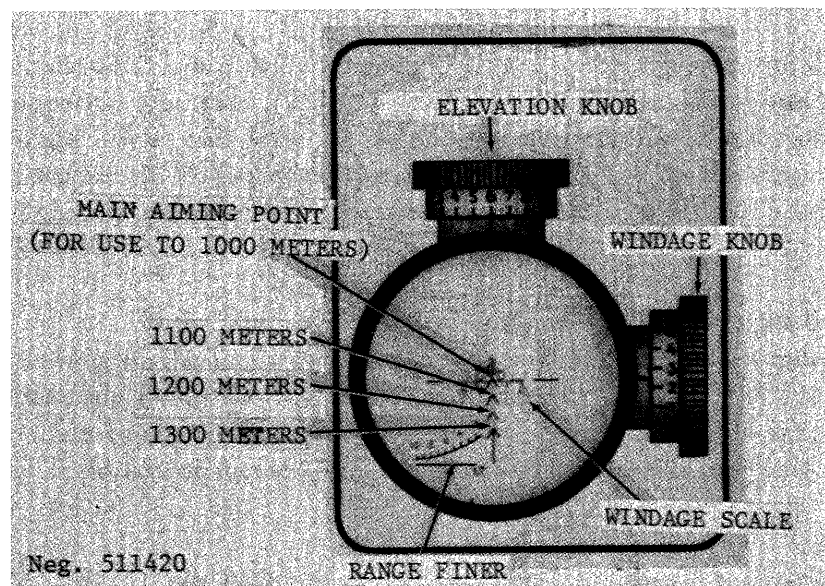

Figure 121. PSO-1 reticle pattern.
d. If the PSO-1 telescopic sight (fig 120) is used, rotate the elevation knob until the figure that corresponds to the range in hundreds of meters is aligned with its index. The range can be fairly accurately determined by use of the range finder located in the lower left of the telescope reticle (fig 121). This rangefinder is graduated to the height of a man (5'7"). Look through the telescope and place the horizontal line at the bottom line of the target. Move the telescope until the upper (curved) line just touches the top of the target's head. The number indicates the